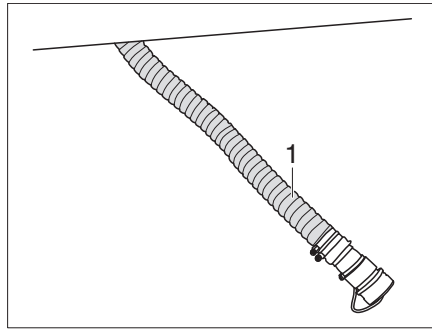

Fig. 353 Emptying the cassette of the macerator toilet
- Detach the drain hose (Fig. 353,1) below the vehicle and position it into the disposal station.
- Leave the drain hose (Fig. 353,1) in the disposal station.
- Store the drain hose (Fig. 353,1) under the vehicle.